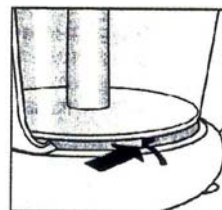

Fig. 2
- When fitted correctly, the handle will be to the right of the assembly, and the ridge on the base of the bowl will fit into the slot at the back of the processor body. (Fig. 2)